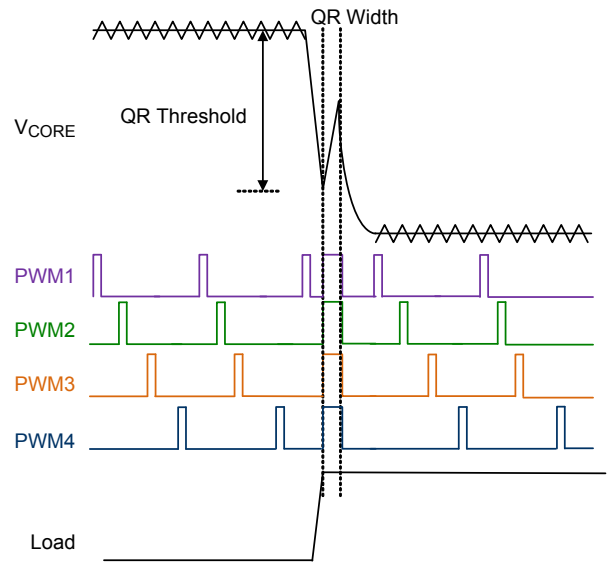

Figure 24. Quick Response Mechanism
When the transient load step-up becomes quite large, it is difficult for loop response to meet the energy transfer. Hence, that output voltage generate undershoot to fail specification. The RT3607BC has Quick Response (QR) mechanism being able to improve this issue. It adopts a nonlinear control mechanism which can disable interleaving function and simultaneously turn on all UGATE one pulse at instantaneous step-up transient load to restrain the output voltage drooping. Figure 24 shows the QR behavior.